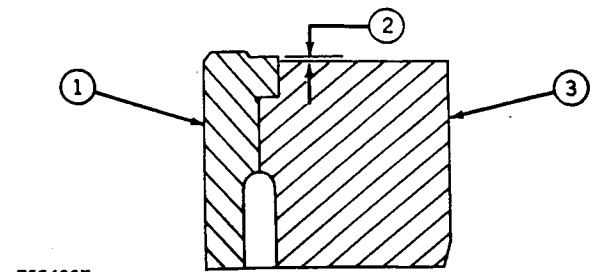

Fig. 8-Liner Flange Height
Use a depth gauge to check the height of the liner flange (1, Fig. 8) above the top of the cylinder block (3). The height should be 0.001 to 0.004 in. (0.03 to 0.10 mm) (2, Fig. 8). Check this height several places around the liner to make sure the liner is seated squarely in the bore of the cylinder block. Remove the liner from its bore.